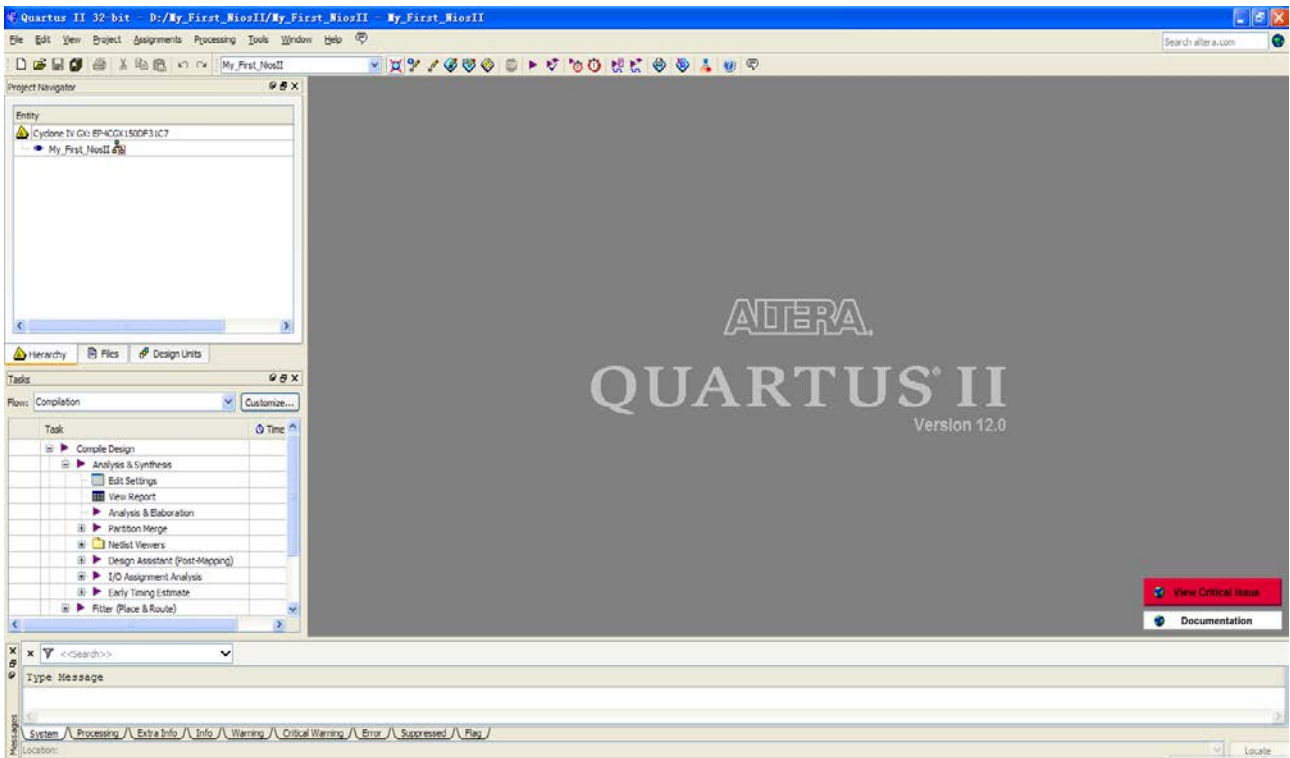

**Figure 1-6 New Project Wizard: EDA Tool Settings [page 4 of 5]**
3. Click **Next** to next window. We choose device family and device settings. You should choose settings the same as the Figure 1-5. Then click **Next** to next window as shown in Figure 1-6.